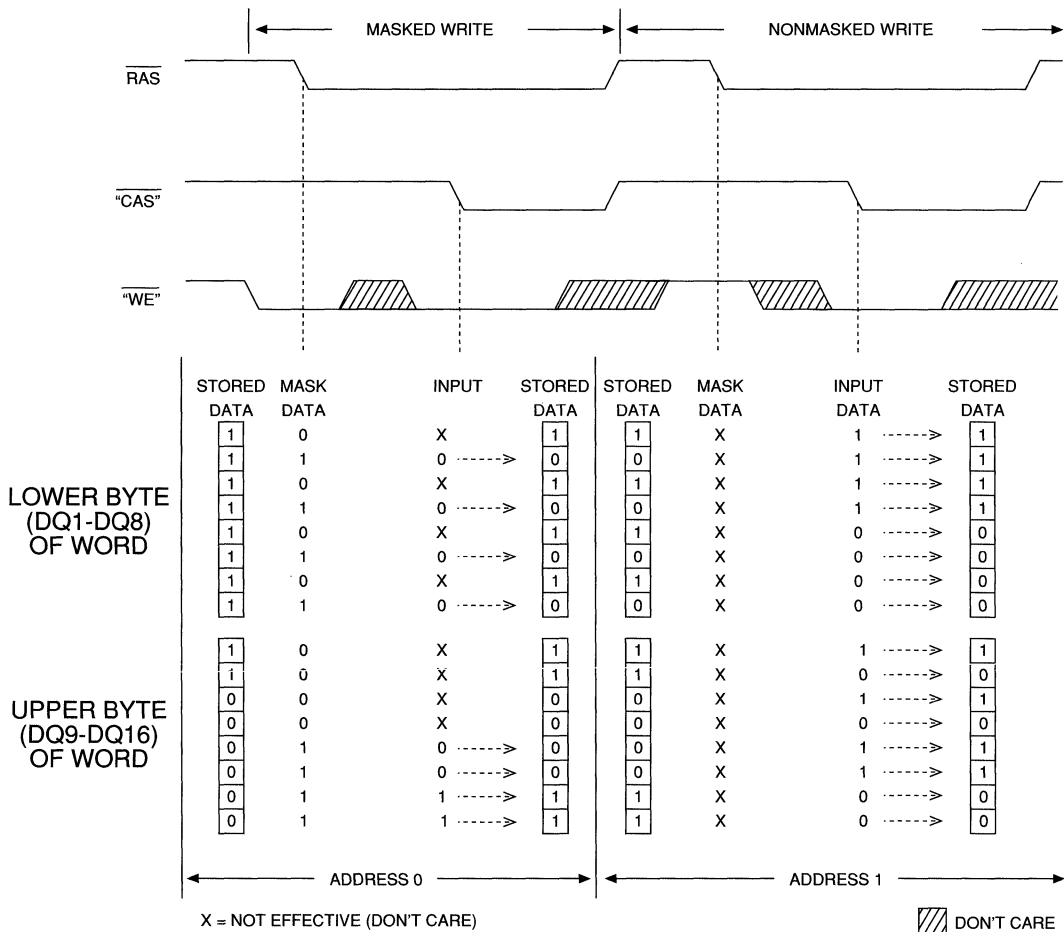

Figure 4
Figure 4 illustrates the MT4C16258 and MT4C16259 MASKED WRITE operation (Note: $\overline{\text{RAS}}$ or $\overline{\text{CAS}}$ time refers to the time at which $\overline{\text{RAS}}$ or $\overline{\text{CAS}}$ transition from HIGH to LOW).
3. Data in will be dependent on the mask provided (MT4C16258 only). Refer to Figure 4.
3. Data in will be dependent on the mask provided (MT4C16259 only). Refer to Figure 4.